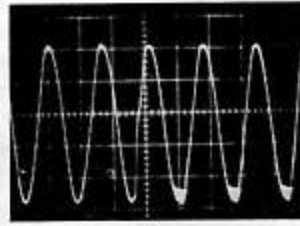

Fig 4.
- Fig 4. TID. full power. Very mild disturbance.